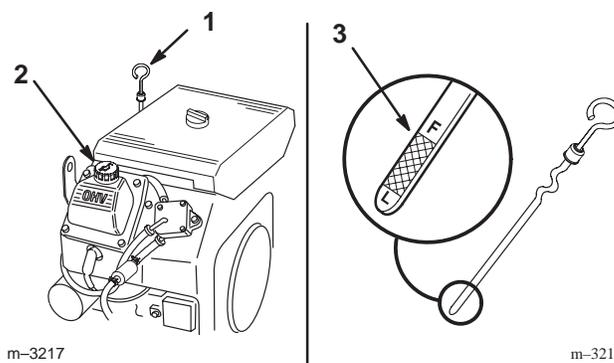

Figure 24
2. Clean around the oil dipstick (Fig. 24) so dirt cannot fall into the filler hole and damage the engine.
3. Pull the oil dipstick and wipe the metal end clean (Fig. 24).
4. Slide the oil dipstick fully into the filler tube. Pull the dipstick out and look at the metal end (Fig. 24). If oil level is low, slowly pour only enough oil into the filler tube to raise the level to the “FULL” mark.
5. Slowly pour approximately 80% of the specified amount of oil specified, page 41, into the filler cap (Fig. 24). Now check the oil level; refer to Checking Oil Level, page 41. Slowly add additional oil to bring to "FULL" mark on dipstick.